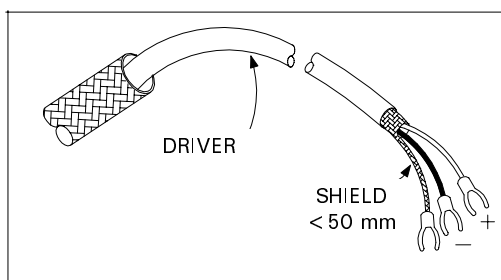

Figure 2-1 Preparing Shielded Wiring
- Prepare the shielded wires as shown on Figure 2-1.